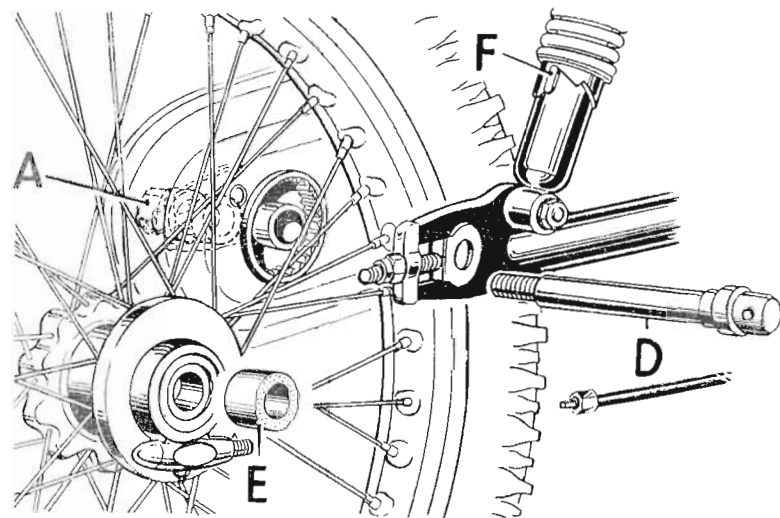

Fig. 19. Removal of the rear wheel.
Removal of the rear wheel does not affect the chain or brake adjustment. Disconnect the speedometer driving cable at the hub and unscrew the spindle (D) Fig. 19, from the right-hand side. It has a normal right-hand thread and therefore unscrews in an anti-clockwise direction. It is also drilled to accept a tommy-bar to facilitate withdrawal. The spacing sleeve (E) between the speedometer drive and the fork end can then be removed and the wheel pulled away from the brake drum and withdrawn from the machine. When detaching the rear wheel it is unnecessary to touch the hexagon nut (A) on the left-hand side, as this retains the brake drum assembly in position.
The load on the springs can be varied by means of a three-position cam adjuster (F) Fig. 19, at the lower end of the unit and the springs can therefore be adjusted to suit the load conditions or nature of the ground. A suitable spanner for this adjustment is provided in the toolkit.